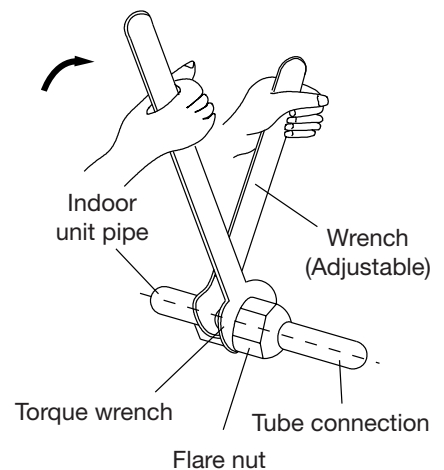

Figure 7
4. Tighten the flare nut to the specified tightening torque with torque wrench and adjustable wrench (Figure 7).